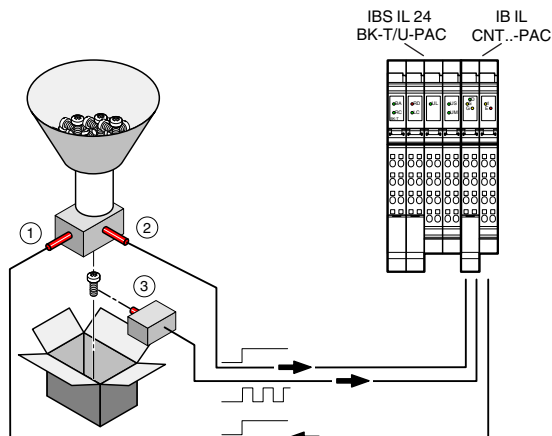

Figure 1-2 Example system for counting goods
In the example shown in Figure 1-2, sets consisting of, for example, 100 screws are to be packed in a cardboard box. The control input (2) enables the count at the counter input (3) when there are screws present in the hopper. Each screw that falls out of the funnel into the box initiates a pulse at the counter input. When there are 100 screws in the box, the switching output (1) is set and the valve triggers the flap to close the hopper. A new box can now be filled.